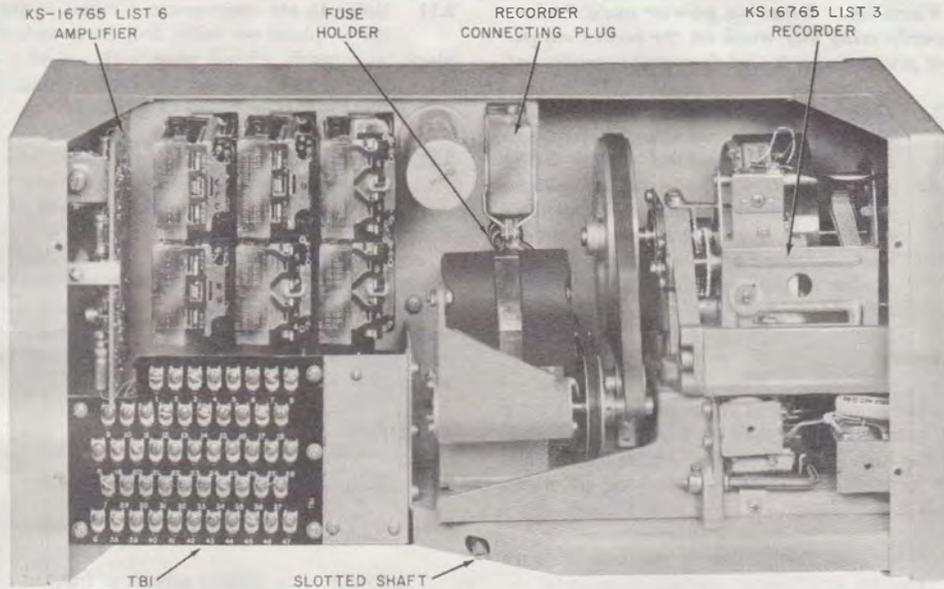
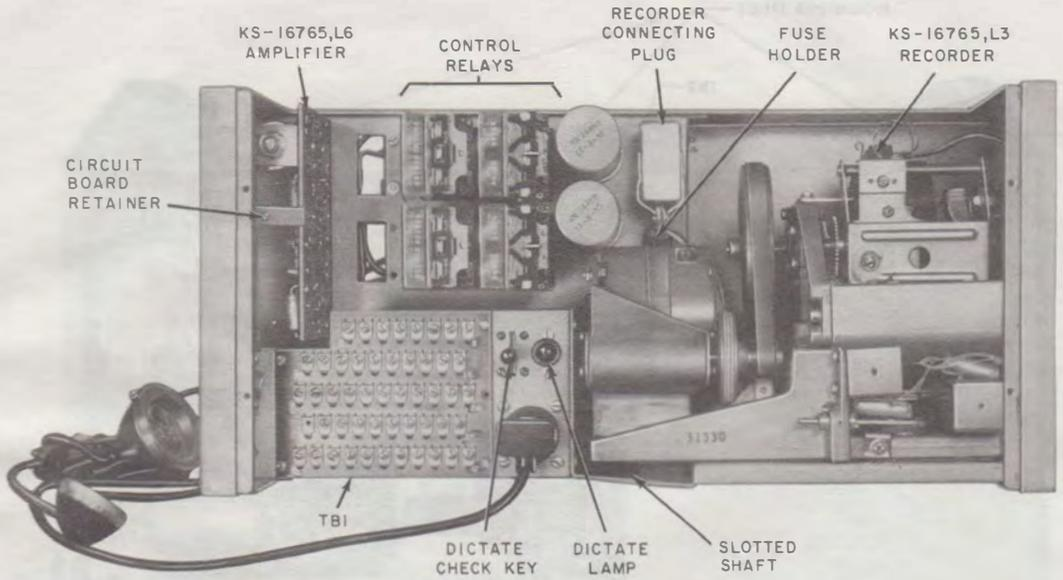

Fig. 3—KS-16765, List 1 Announcement Set, Front Cover Removed
Fig. 5—KS-16765, List 2 Announcement Set, Front Cover Removed
2.11 Refer to the appropriate sections to install the telephone set, cable, drop wire, connecting block, and inside wiring used with a List 1 set (Fig. 3 and 4) and to install the inside wiring used with a List 2 set (Fig. 5 and 6).
- (4) Mount rear cover to wall surface using four No. 14 screws or equivalent.
- (5) Hold set with top tipped slightly back. Insert the three mounting studs (Fig. 3 and 4) located on the underside of the top of the set into the three mounting stud holes in the top edge of the rear cover.
- (6) Tighten slotted shaft by turning clockwise with a screwdriver. This locks set to rear cover.